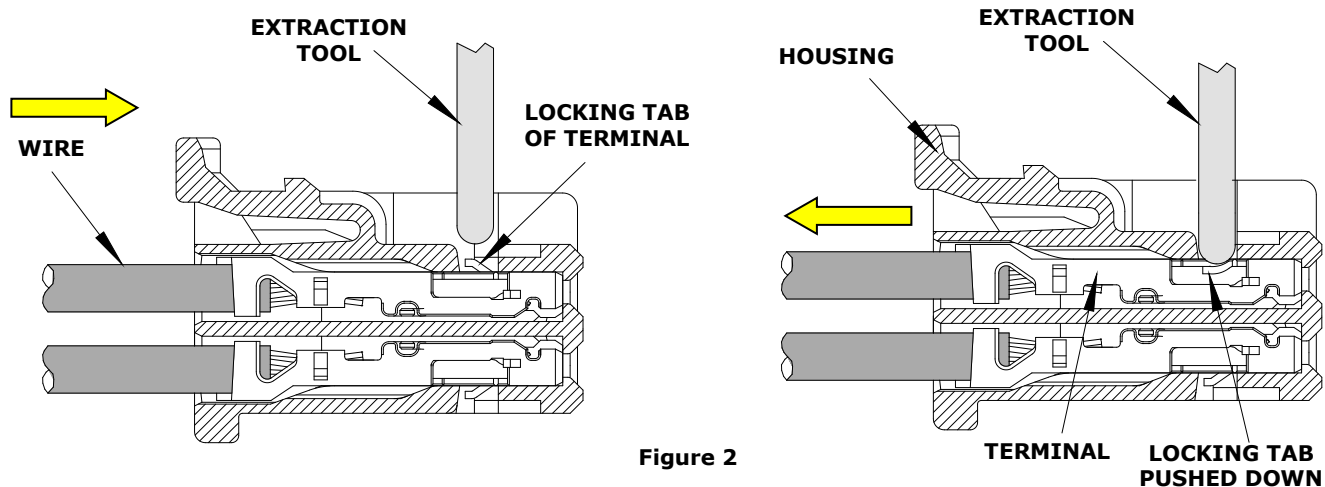

Figure 2
2. Holding the wire and the tool together, pull the wire back through the connector slot in the direction of the arrow as shown in Figure 2.